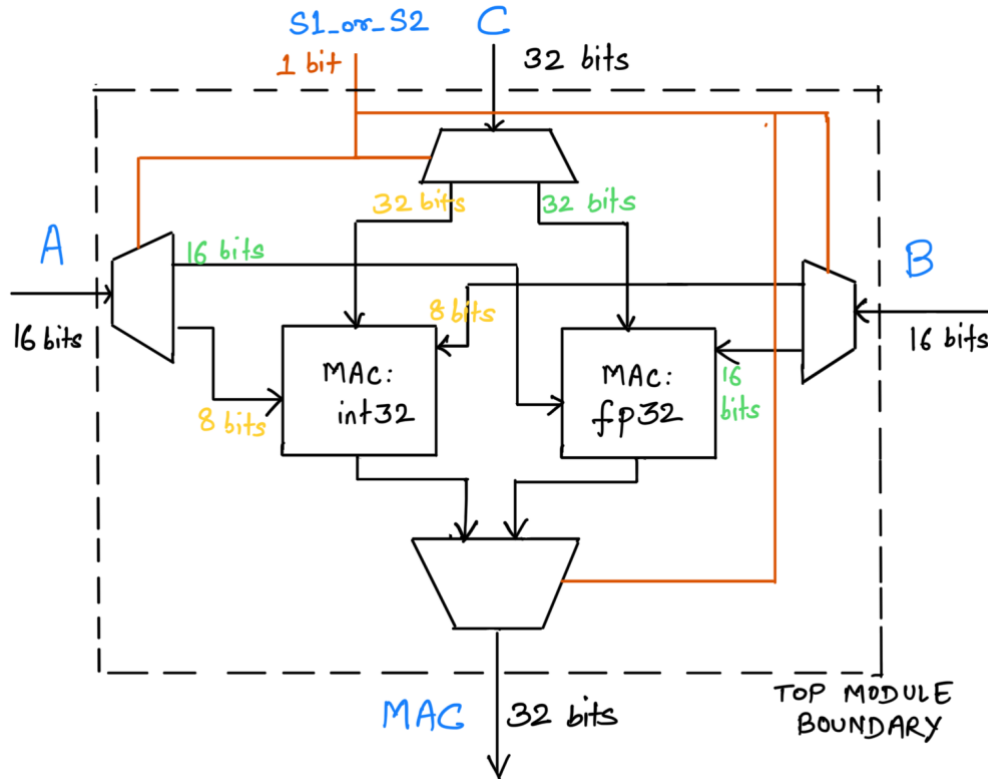

Figure 1. Architectural specification of the MAC unit
The architecture of the MAC unit is illustrated in Fig. 1 and described below.
- Every wire shown in the Fig. 1 is, in general, a bus, with the number of bits mentioned closer to that wire. For example, 'A' is a method through which a 16-bit bus enters the top module. This bus can either carry 8 bits or 16 bits depending on which type of MAC operation is being done (configured based on S1_or_S2). You can decide which 8 bits to use out of the 16 bits for transmitting the 8-bit value in the former case.